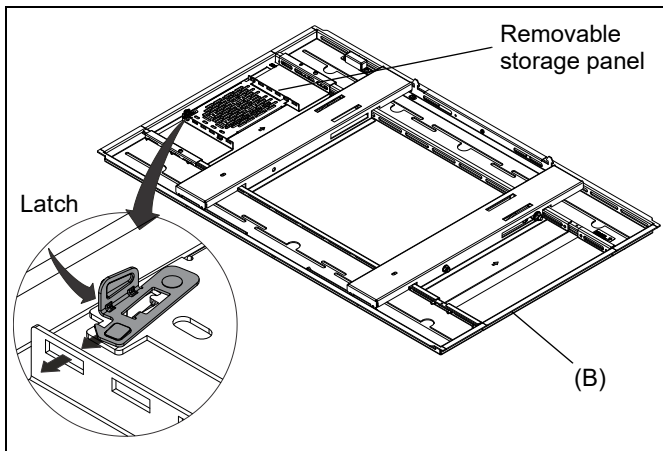

Figure 1
1. Remove kiosk rear frame (B) from the packaging and place on a flat surface. (See Figure 1)
1. Squeeze the spring-loaded latch on lower end tabs of the storage panel and slide the panel up and out of the slots on the rear frame. (See Figure 1)
**NOTE:** When installing the lever lock panel, the latch on the panel must be positioned towards the bottom of the frame. (See Figure 1)